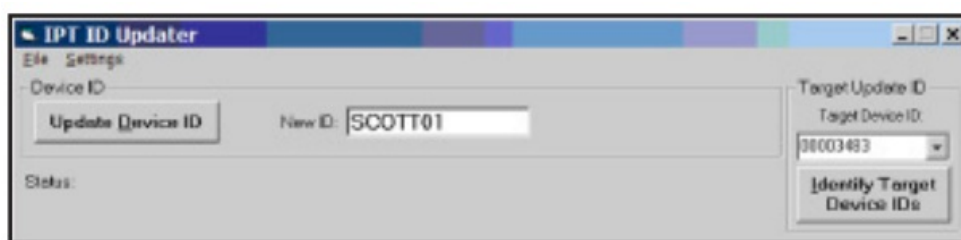

FIGURE 8
6. On the SEMS II REPEATER UNIT, press and hold the ON/ OFF button for approximately eight (8) seconds. The lights on the SEMS II REPEATER UNIT will flash GREEN and then RED. When the RED lights begin flashing alternately, the SEMS II REPEATER UNIT is in Transmit Mode. You have approximately thirty (30) seconds to complete the Update before the SEMS II REPEATER UNIT times-out.
7. Select "Identify Target Device." After a few seconds, the screen will display a list of the ID numbers for all units that are in Transmit Mode in the immediate area. Select the number for the unit you wish to Update. See FIGURE 8